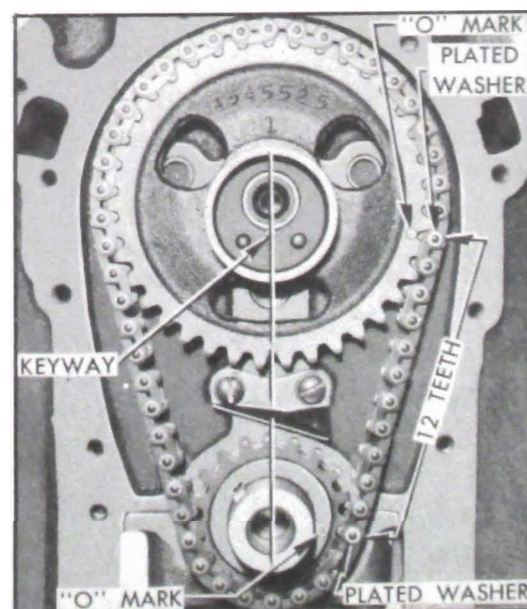

Figure 2-28—Timing Chain and Sprockets Properly Installed
4. If there has been doubt about the valve timing, turn crankshaft until the camshaft sprocket keyway is straight down toward the crankshaft and the "0" timing marks on both sprockets are toward left side of engine. If timing chain is installed to provide correct valve timing, there will be 12 teeth between the "0" timing marks, including teeth aligned with the marks. See figure 2-28.
7. When ready to install timing chain, turn crankshaft until Nos. 1 and 4 pistons are on top dead center. Turn camshaft so that the sprocket key points straight down toward crankshaft. See figure 2-28.
8. Place timing chain over the camshaft and crankshaft sprockets so that the copper plated washers on chain are aligned with the "0" marks stamped on front faces of sprockets, then install sprockets with chain on the two shafts. See figure 2-28.